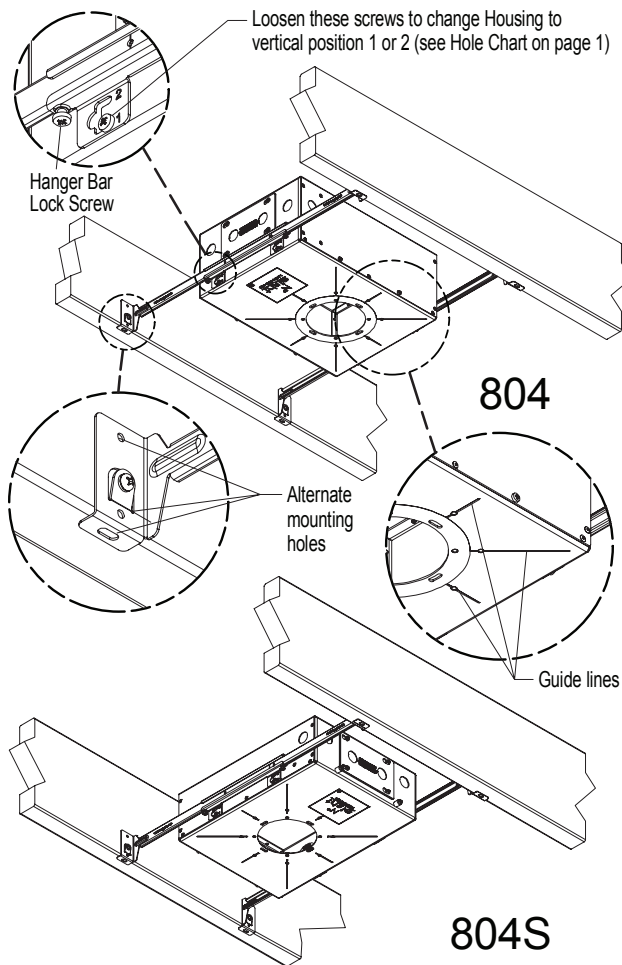

FIG 3.1 Fastening Housing to joists
STEP 1 Spread Hanger Bars to approximate Joist spacing. Temporarily secure Lock Screws to keep Housing from sliding along Hanger Bars – FIG 3.1 & 3.2.
STEP 2 Secure Housing & Hanger Bar assembly to Joists using either the fasteners supplied on Hanger Bars or fasteners through alternate mounting holes – FIG 3.1.
STEP 3 Reposition Housing along Hanger Bars as needed. Use guide lines to help locate Housing relative to nearby walls or other fixtures – FIG 3.1 & 3.2.